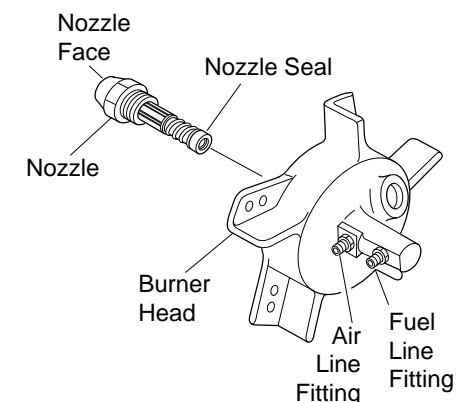

Figure 15 - Removing Nozzle
8. Carefully remove nozzle from burner head using 5/8" socket wrench (see Figure 15).